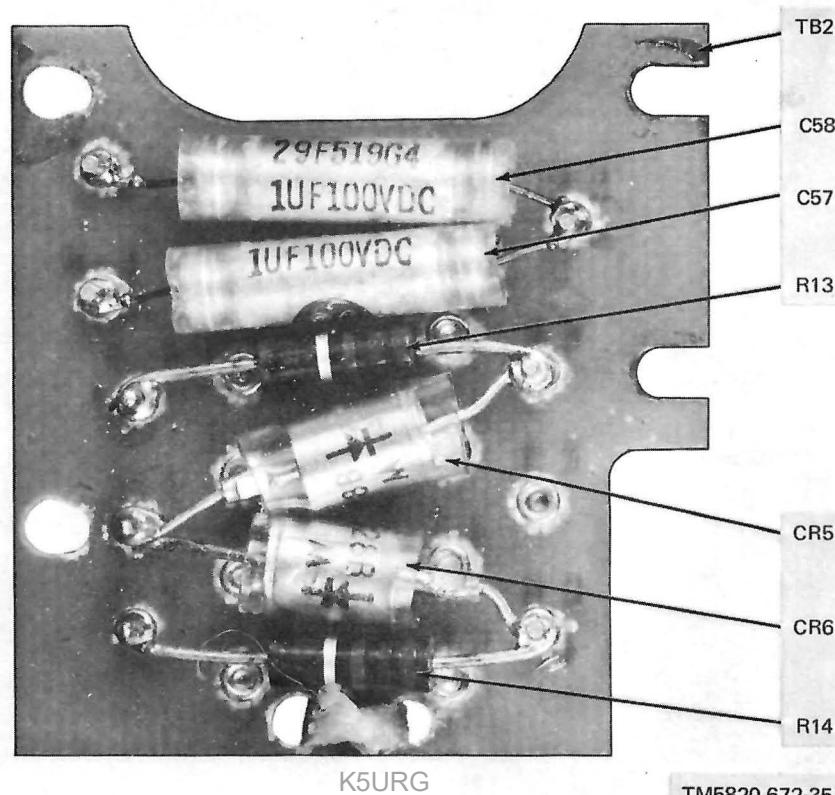

Figure 3-10. Bridge equalizing circuits.
i. Refer to figure 3-10. Remove the bridge equalizing circuits terminal board from the chassis as follows:
- (1) Remove four screws and four flat washers that retain assembly to chassis.
- (2) Lift assembly away from chassis to limits of attached wires.